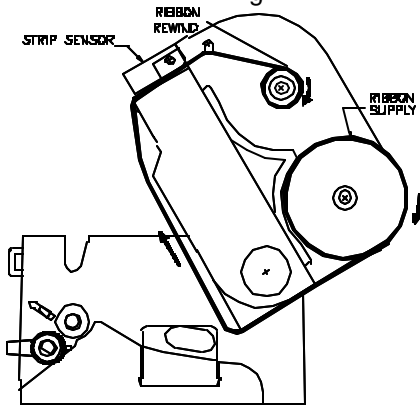

Fig. 2.2.4
8. Turn over the head assembly. Pass the front edge of the new ribbon through between the assembly and the strip sensor (part 16), then stick the front edge to the paper core of the rewind spindle (see figure 2.2.4).